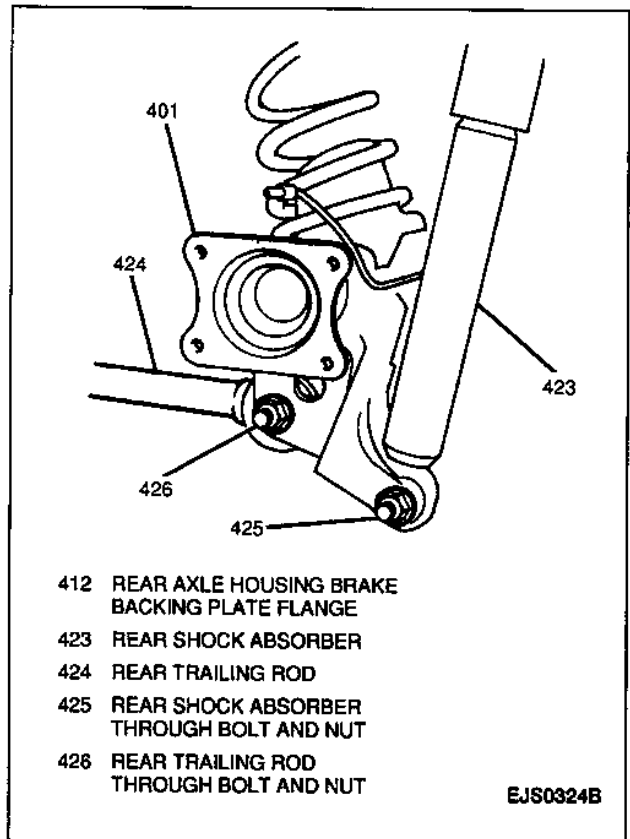

Figure 32—Rear Shock Absorber and Rear Trailing Rod Through Bolts and Nuts
24. Two nuts and two washers (one from each side) from lower rear shock absorber through bolts at rear axle housing (Figure 32).
25. Two nuts and two washers (one from each side) from rear trailing rods at rear axle housing (Figure 32).
6. Two nuts and washers (one on each side) to rear trailing rod through bolts at rear axle housing (Figure 32).
7. Two nuts and washers (one on each side) to lower rear shock absorber through bolts at rear axle housing (Figure 32).